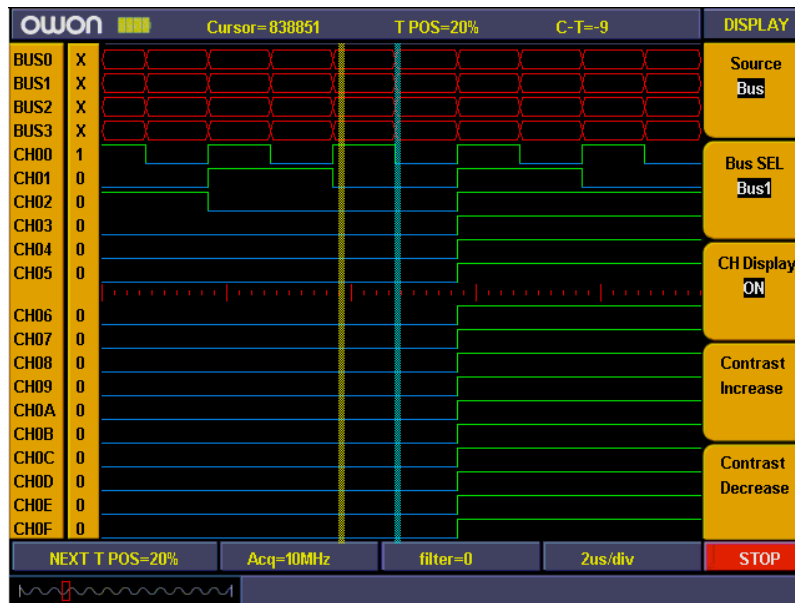

Fig.14
7. Press “**F3**” and set signal sources as “**OFF**”. Repeat operation of steps 6.7 and set BUS1、BUS2、BUS3 all as “**OFF**”. Ref to fig. 14